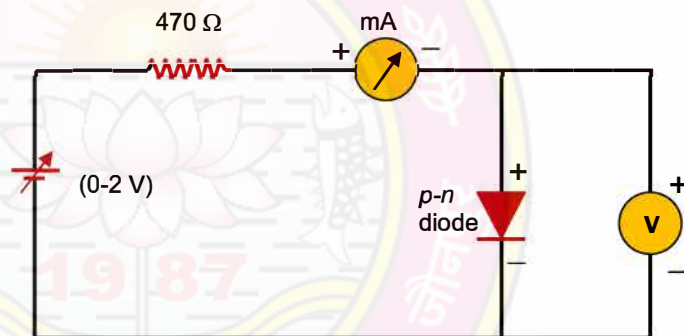

Fig. 2: Circuit diagram for the determining Boltzmann constant from the $V-I$ characteristics of a $p-n$ diode
1. Make the connections as per the Fig. 2. Connect the $p-n$ diode in the forward bias mode. Connect the voltmeter across the diode and a milliammeter in series with the circuit.